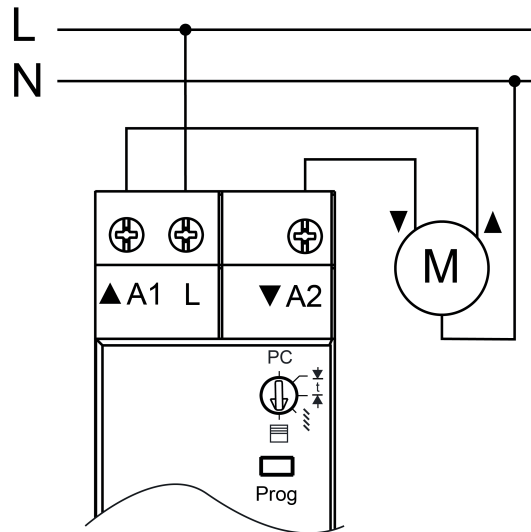

Figure 3: Connection example
- Connect load as shown in the connection example (figure 3).